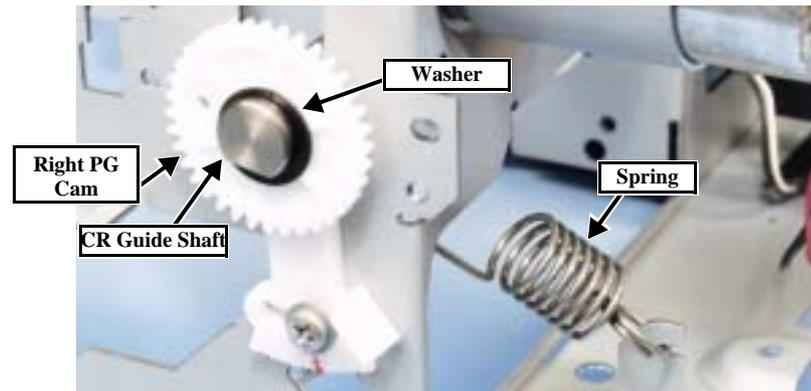

Figure 4-67. Removing the Carriage Assy (at right side)
11. At the right side of the printer, remove the spring, remove the washer, and the Right PG Cam. (Fig. 4-67)